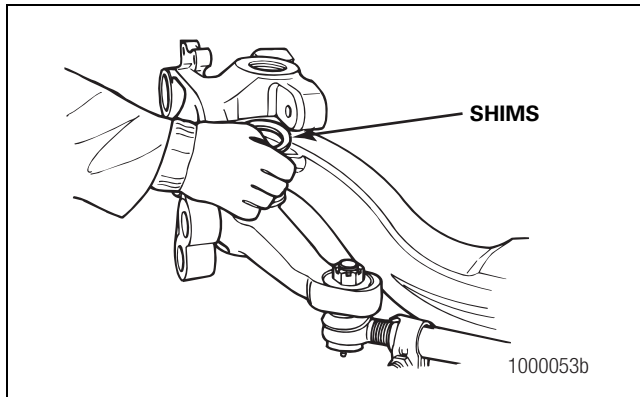

Figure 6.19
3. After inspection, place the shims on top of the axle beam bore machined surface. Align the shims for king pin installation. Figure 6.19.